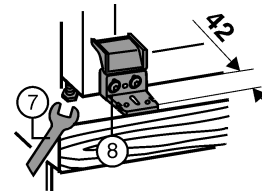

Fig. 19
- ▶ Align plastic bracket Fig. 19 (8) in depth so as to be flush with the front edges of the side walls of the unit, even if the bracket projects over the base of the unit as a result.
- ▶ Level the appliance by means of the adjustable feet using the accompanying spanner Fig. 19 (7).